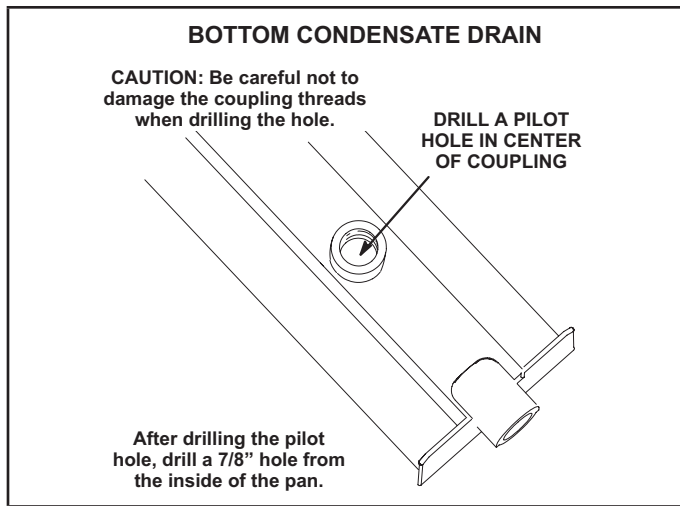

**FIGURE 7**
- 5 - Lift front edge of the drain pan (to clear bottom drain plug) and slide drain pan out of unit. See FIGURE 7.